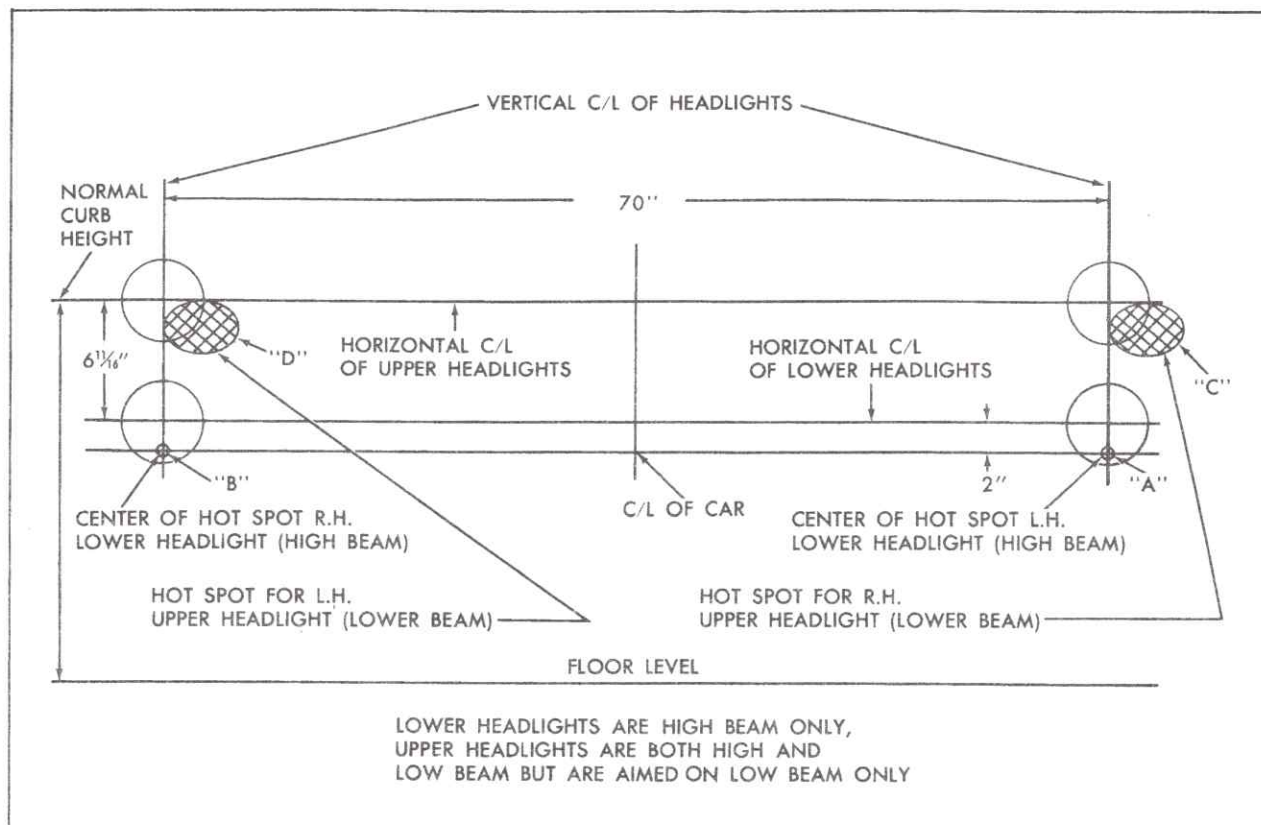

Fig. 12-12 Headlight Aiming Screen
Make a headlight aiming screen according to the dimensions and layout shown in Fig. 12-12.
6. Cover both left side headlights and right side upper light and adjust right lower light as required until hot spot centers at point "A" on screen, Fig. 12-12.
7. Cover both right side headlights and left side upper light and adjust left lower light as required until hot spot centers at point "B" on screen, Fig. 12-12.
9. Cover left upper headlight and adjust right upper light as required until top of hot spot "C" is on horizontal centerline of headlight and left edge of hot spot is on vertical centerline of upper light, Fig. 12-12.
10. Cover right upper headlight and adjust left upper light as required until top of hot spot "D" is on horizontal centerline of headlight and left edge of hot spot is on vertical centerline of upper light, Fig. 12-12.